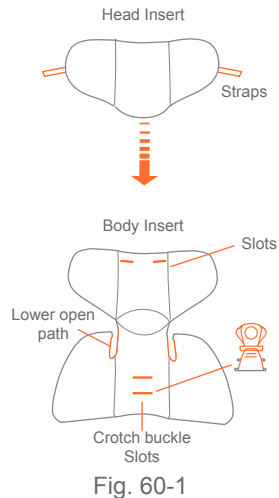
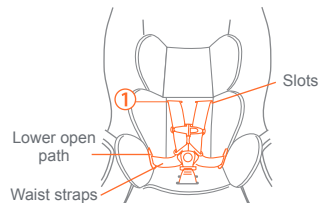

Fig. 60-1
Fig. 60-2
- 1- **Body and head insert:** **ONLY** use this insert set with children who weigh between 4-18 lbs. Use is not mandatory. Place Body Insert into seat and thread the crotch buckle accordingly (Fig. 60-1).
- 2- Place the waist straps the through the Lower open path of the body insert (Fig. 60-1) and (Fig. 60-2).
- 3- If using harness level 1 thread the shoulder straps through slots 1 on the insert (Fig. 60-2).